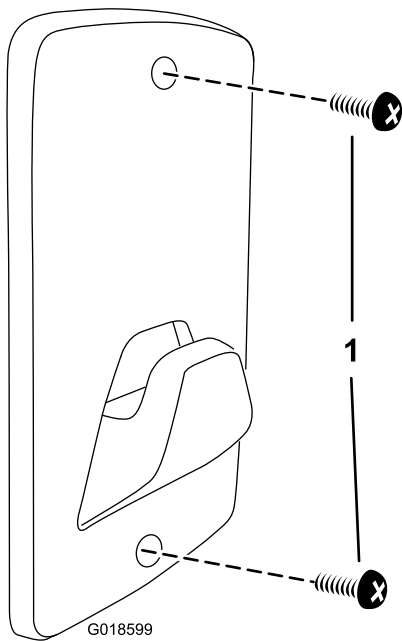

Figure 1
3. Install the screws (Figure 1).